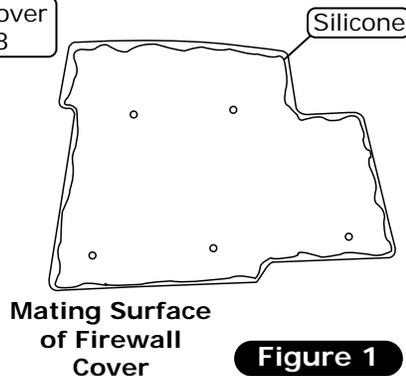

Figure 1
1. Install (3) 1/4-20 x 3/4" black serrated flange bolts with (3) 1/4" pushnut bolt retainers onto the firewall cover (See Photo 1, below).
2. Apply silicone to the mating surface of the firewall cover (See Figure 1, below).
3. Install the firewall cover onto the firewall, then secure it using (3) 1/4" USS flat washers and (3) 1/4-20 nuts with star washers (See Photo 2, below).